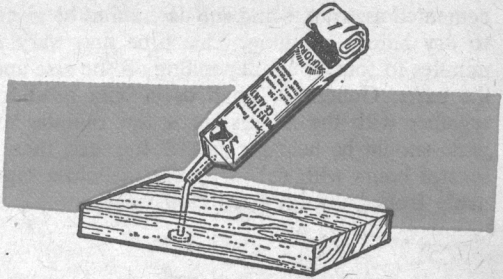

Fig. 14 .
16. A cement tube holder. See Figure 14, page 29.
The cement tube should be kept tightly capped when not in use. However, it is not necessary to remove and replace the cap each time during assembly work. To avoid this, drive a small nail at an angle through a section of thin board or plywood and impale the tube on it (Figure 14). The nail should be large enough to fill the tube opening.